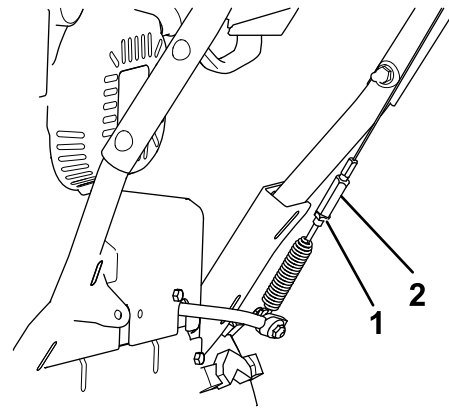

Figure 36
6. Loosen or tighten the turnbuckle that adjusts the tension on the cable (Figure 36).
5. Loosen the jam nut (Figure 36).